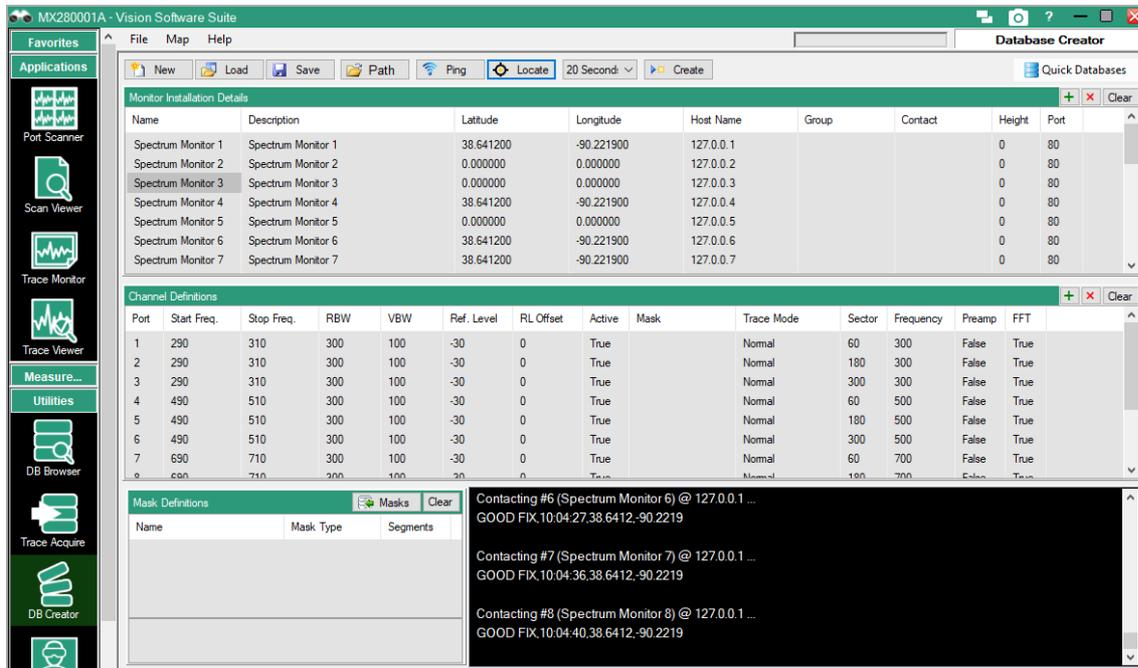

Figure 3-14. Database Creator Screen – Imported Monitor List – Example 2
9. Click **Import** and the input tables in Database Creator are compiled as shown in (Figure 3-14).